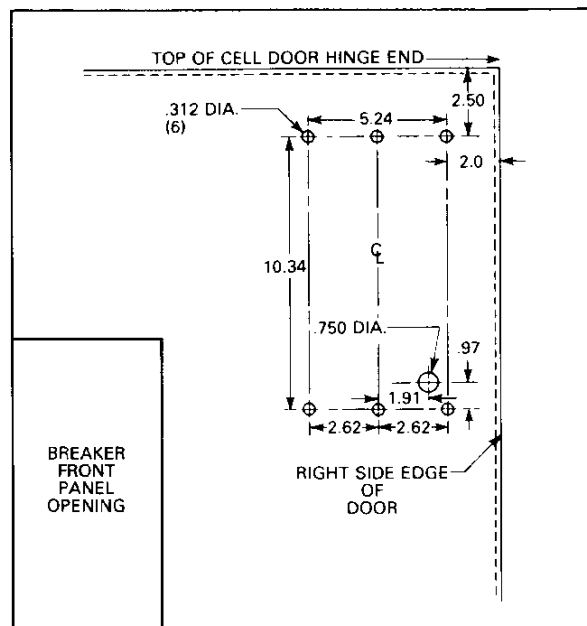
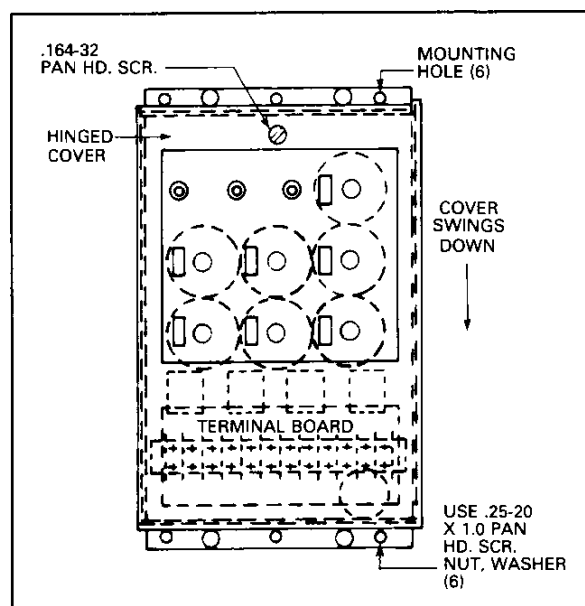

Fig. 8 Amptector Mounting Details Vertical Mount
Fig. 9 Amptector In Vertical Position
1. Acquaint yourself with the location of the mounting holes and placement of the amptector, Fig. 8.
2. Facing the front of the cell door scribe a horizontal line 2.5 inches down from the top of the door and parallel to the edge of the door. Scribe a vertical line 2.0 inches from the top right side of the door and parallel to edge. The intersection of these two lines locates the hole for the screw holding the amptector at the top right side of the door, Fig. 8.
3. From the vertical line measure a distance of 5.24 inches and scribe a parallel line, Fig. 8 and from the horizontal line measure a distance of 10.34 inches and scribe a line parallel to the horizontal line. This now locates the four (4) outer hole locations. Now locate the center line, and the two inner holes, Fig. 8.
4. Using the centerline and the left vertical line locate the center of the grommet hole, Fig. 8.
5. Center punch all locations, drill six (6) .312 diameter holes and one (1) .750 diameter hole. Place the grommet into the .750 dia. hole.
6. Mount the amptector on the door using .25-20 x 1.0 pan hd. scr., washer, lockwasher and nut. Finger tighten the nuts on the screws. Fig. 9.